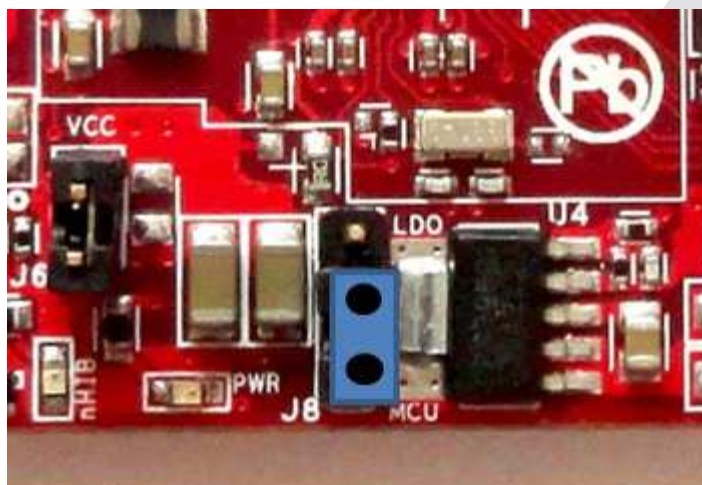
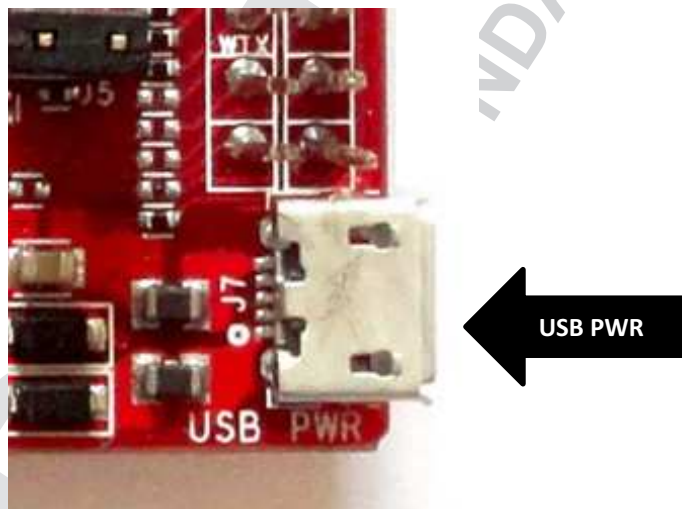

Figure 4. 3.3 V Power From MCU
Figure 5. Feed USB on the BoosterPack (if the Launchpad cannot source 5 V on 20-pin connector)
The most common scenario is to power the CC3100BOOST from the mated LaunchPad (TM). In this case, the Launchpad provides 3.3 V to the BoosterPack for its operation (see Figure 4). In addition to the 3.3 V, some launchpads provide a 5 V from the USB (see Figure 5), which is used to drive a 3.3 V LDO on the BoosterPack. In case the launchpad is not able to provide the 5V (for e.g. the launchpad with only 20 pins), then the USB connector on the CC3100BOOST should be used to provide the LDO input as shown below.